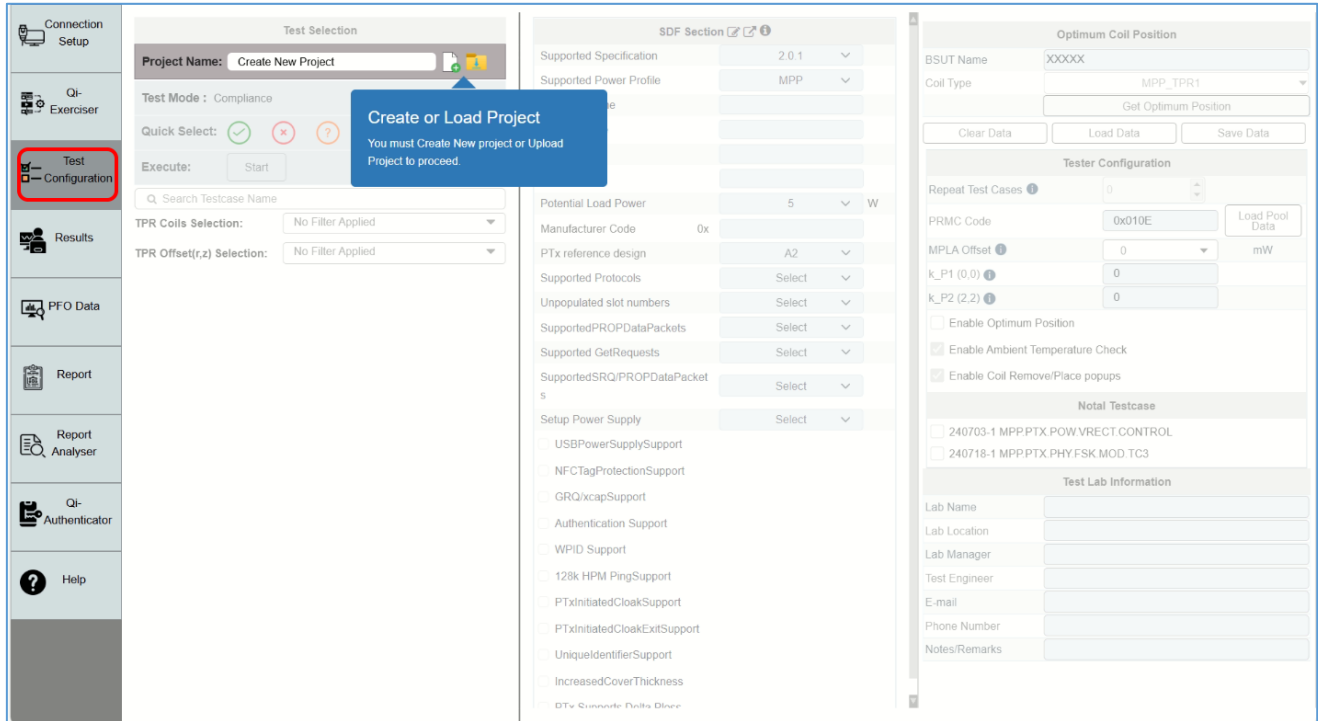

FIGURE 4.3: TEST CONFIGURATION SCREEN
4. Click on the **Test Configuration** tab on the left-side bar of the application as shown in Figure 4.3 below.